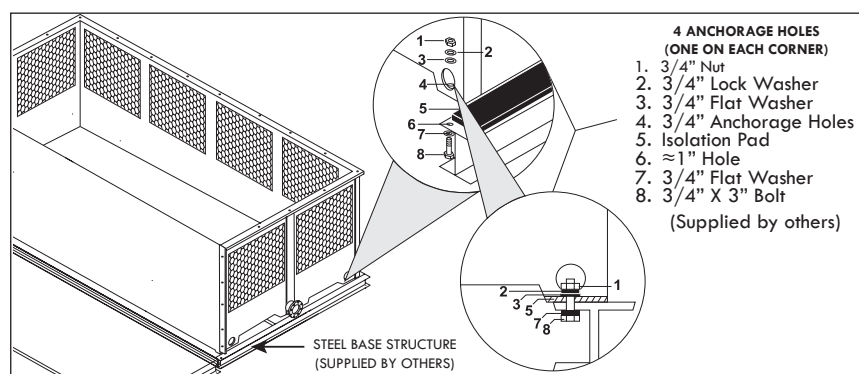

Figure A-25: Typical anchorage for a Quadruple Fan Tower
- F. Place the basin section of the Tower on top of the isolation pad and the base structure; Secure it with the stainless steel nut and bolt sets (supplied by others) as shown on Figure A-25.